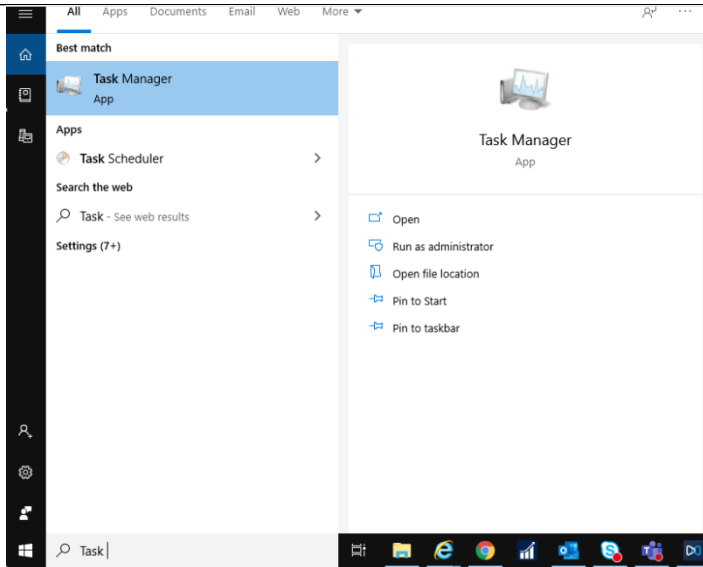

Figure 19
3. In such a situation when the screen freezes, you can open Task Manager from your computer and click on 'Flexible Inspection Scope Software' and forcefully end task by clicking on 'End Task'. **Fig. 19, Fig. 20**